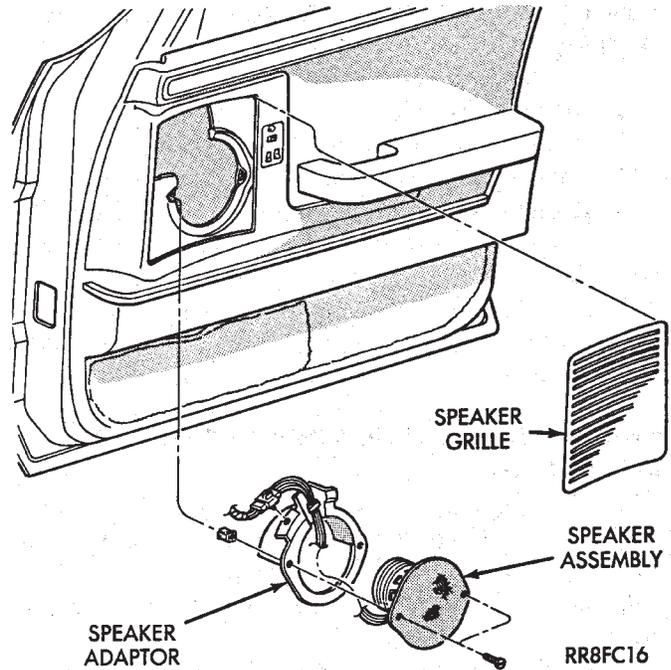

Fig. 33 Door Mounted Speaker—AC and AY Bodies
(1) Carefully, pry speaker grille away from door trim panel (Fig. 33).